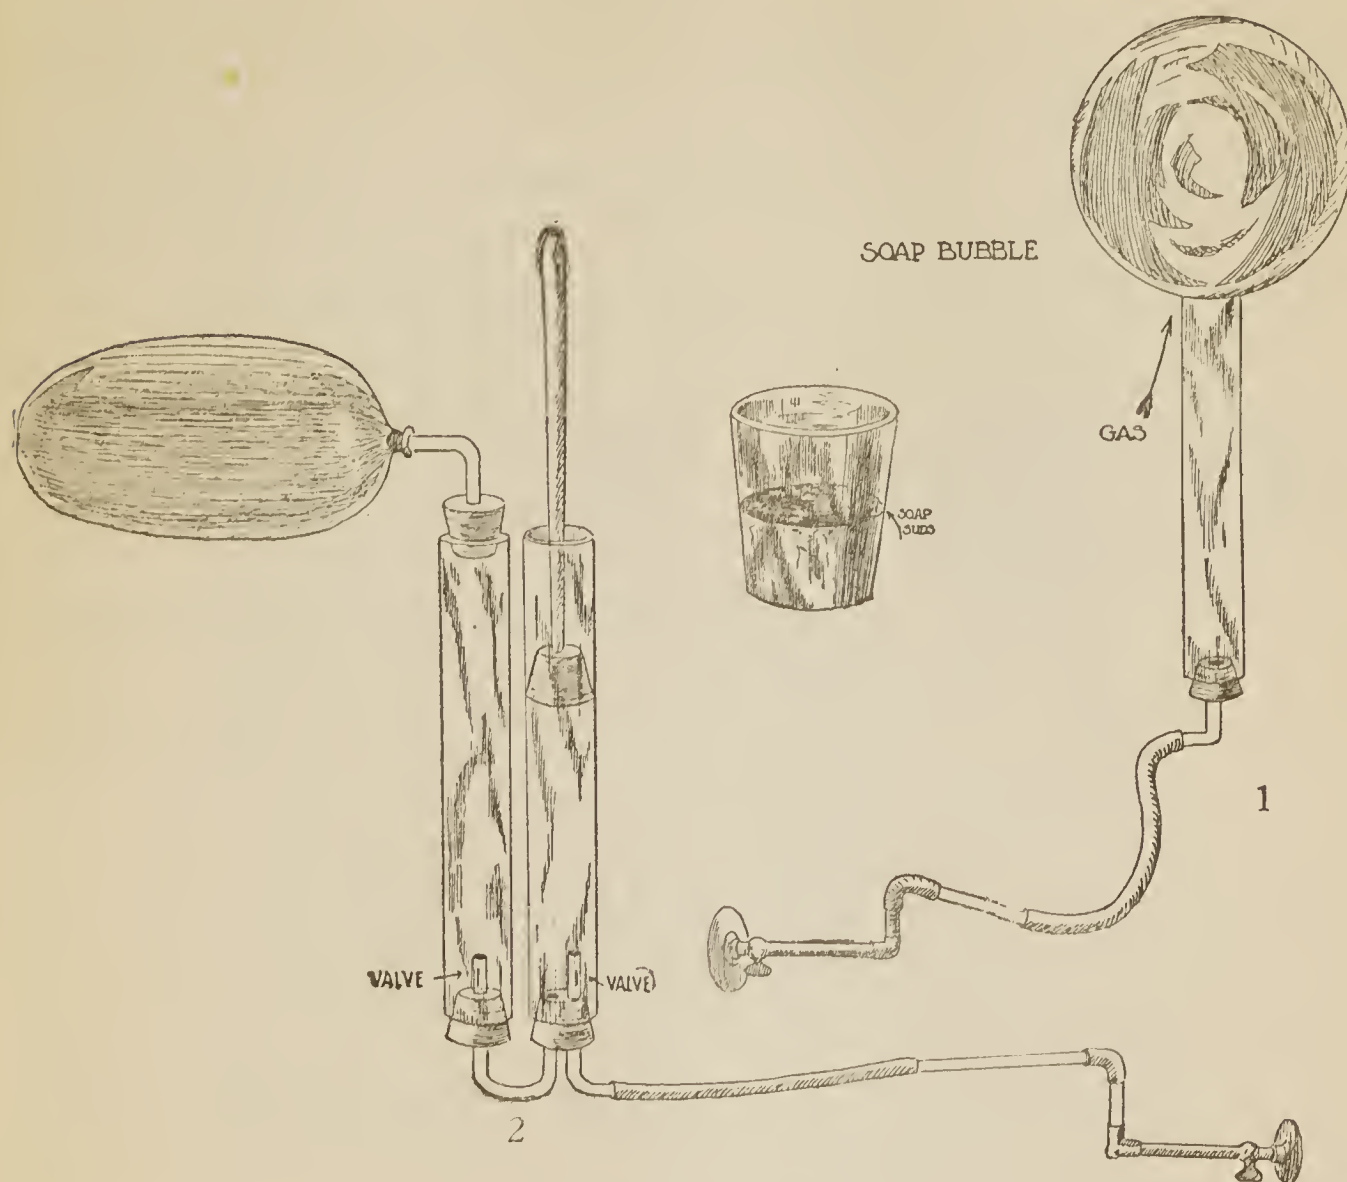

Fig. 147.—Filling a Bubble and a Balloon with Illuminating Gas
Blow a soap bubble with illuminating gas (1) Fig. 147.
Blow up a balloon with illuminating gas by means of the force pump (2) Fig. 147. Does the balloon rise?